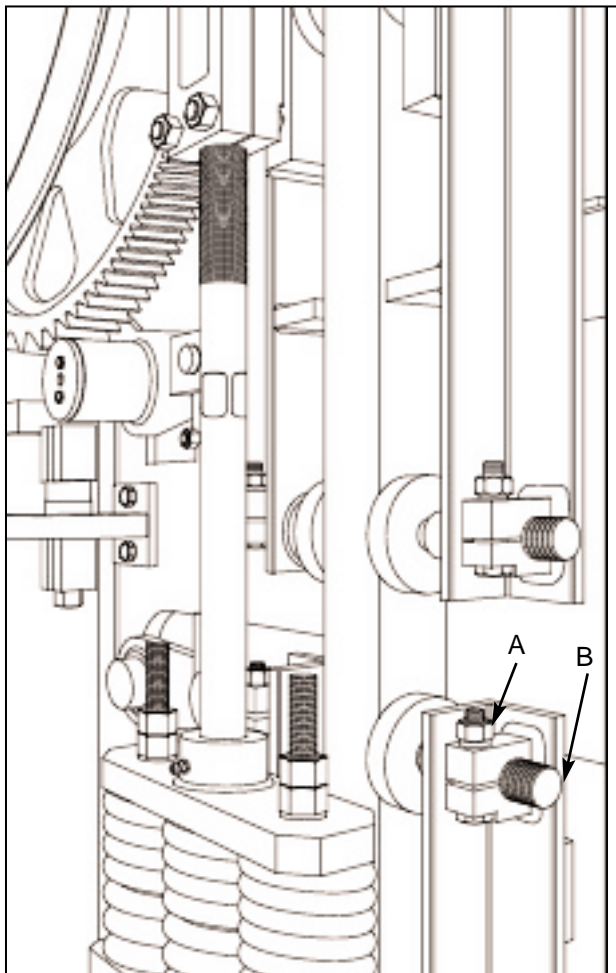

Figure 5.19 UPPER GUIDE LINER
a. To make the following adjustments (see figure 5.19):
1. Loosen the nut (A).
2. Adjust the guide liner (B) as desired.
3. Tighten the nut (A).